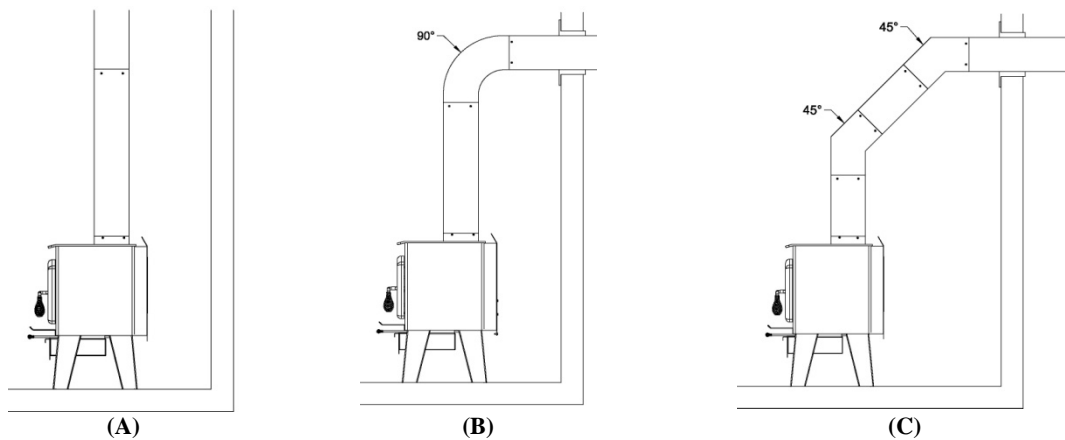

FIGURE 2.2 The use of elbows
- The assembly should be as short and direct as possible between the stove and chimney (See figure 2.2 (A)). The use of two 45 degree elbows (See figure 2.2 (C)) is often preferable to a single 90 degree elbow (See figure 2.2 (B)) because less turbulence is created in the exhaust flow and they result in less horizontal run.